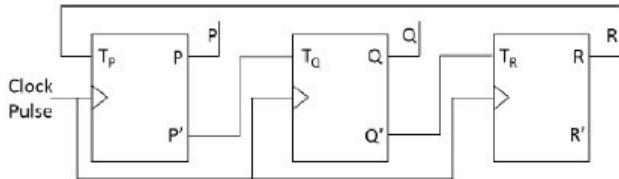

Fig. 6.4
3. Consider a 3-bit counter, designed using T flip-flops, as shown below in Fig. 6.4. Assuming the initial state of the counter given by  $PQR$  as 000, what are the next three states?